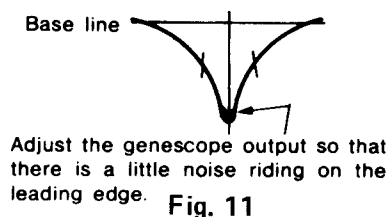

Fig. 11
4. Connect the frequency counter to IC301 ⑥ pin and connect a 220 k Ω resistor series with the frequency counter.
6. Feed in a weak signal from the genescope. Adjust T201, T203 for maximum gain and the waveform of Fig. 11.